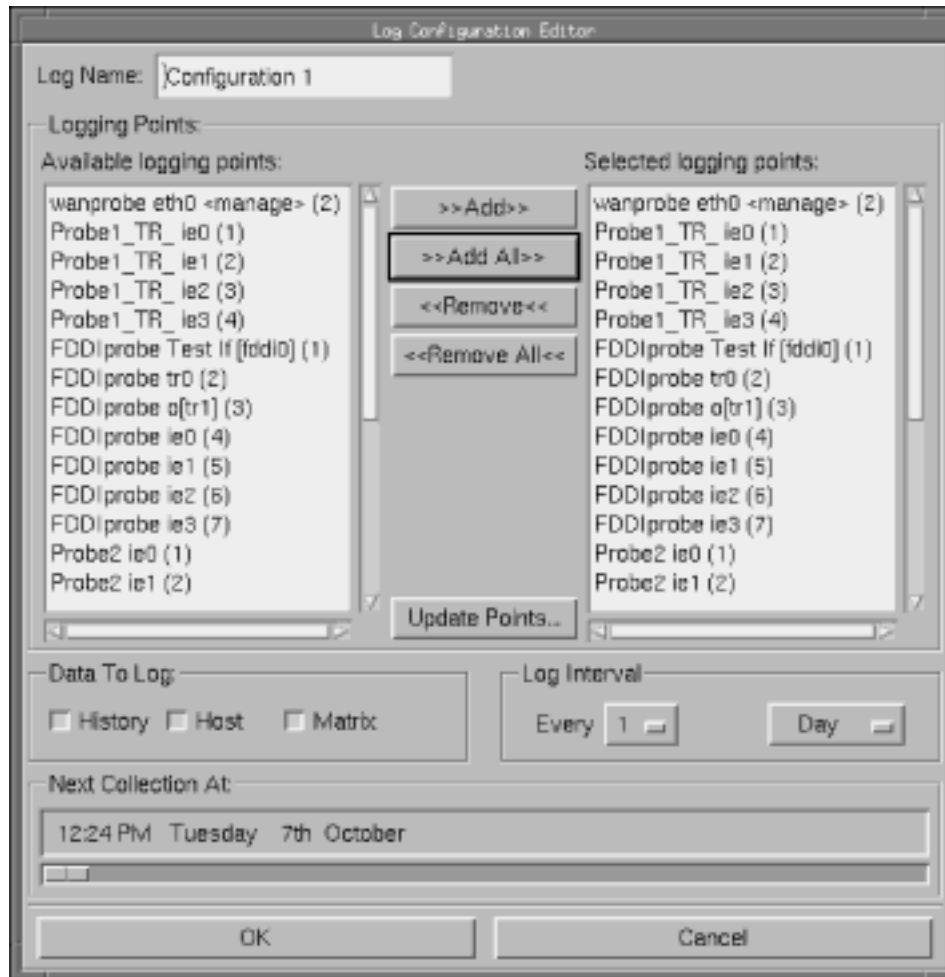

Figure 64. Log Configuration Editor Dialog Box
1. In the Collector main dialog box, click **Add...** to open the Log Configuration Editor dialog box (See Figure 64).
1. Click **Add...** to open the Log Configuration Editor dialog box, shown in Figure 64 on page 128.